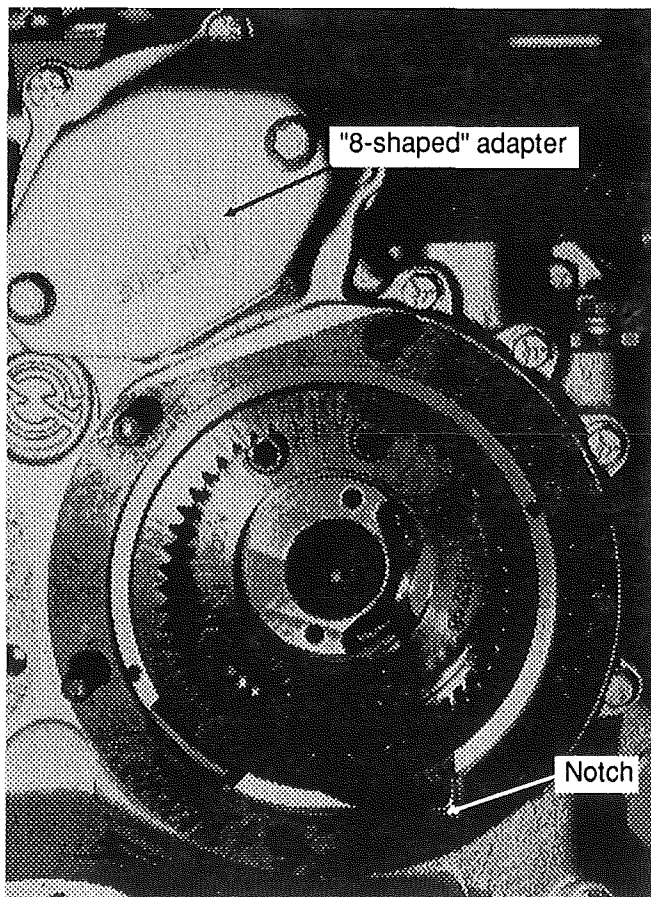

FIG. 26 - Alternator adapter
**NOTE:** Gasket must have a notch on inside edge of large circle for proper internal oil drainage. Refer to figure 26 for details.